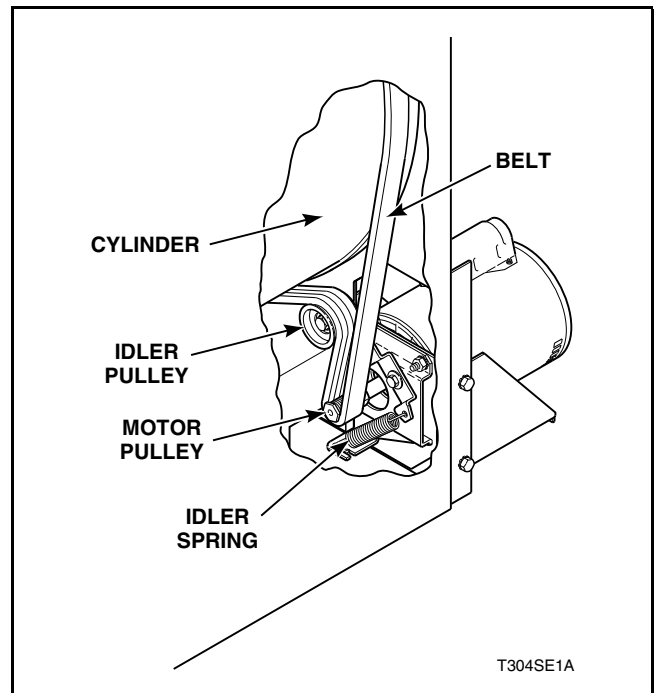

Figure 36
Refer to *Figure 36*.
NOTE: When installing cylinder belt, be sure belt is properly positioned around cylinder and on motor pulley and idler. Rotate cylinder clockwise to align belt around belt path. *Figure 36* shows proper belt position for stacked tumble dryers.
- b. Reach into cabinet and carefully apply downward pressure on idler pulley. Slide belt off pulley and slowly release pressure on idler pulley. Refer to *Figure 36*.